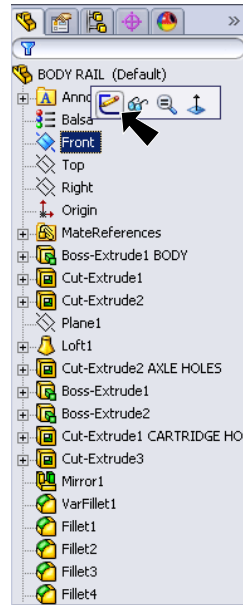

Fig. 139
Step 2. Click **Front**  (plane) in the **Feature Manager** and click **Sketch**  from the **Content toolbar**, **Fig. 139**.